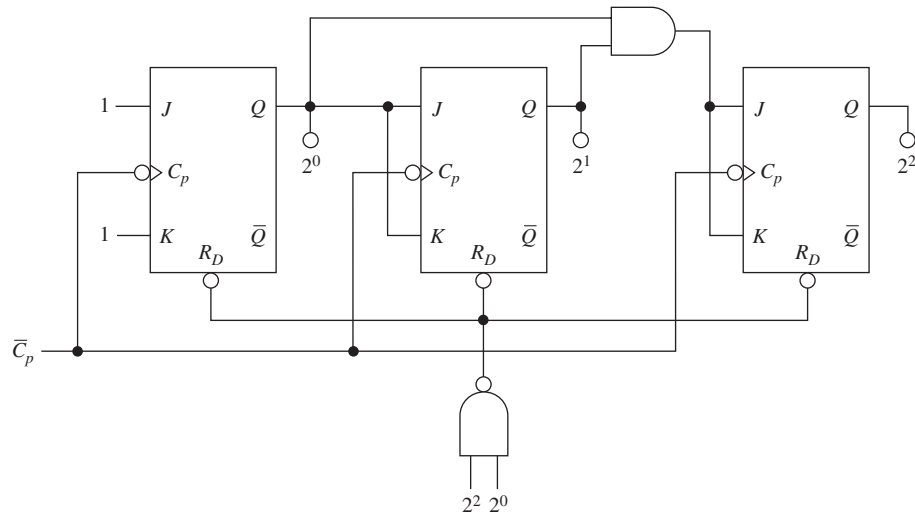

Figure P37
37. Sketch the waveforms at $\overline{C_p}$, 2^0 , 2^1 , and 2^2 for 10 clock pulses for the 3-bit synchronous counter shown in Figure P37.